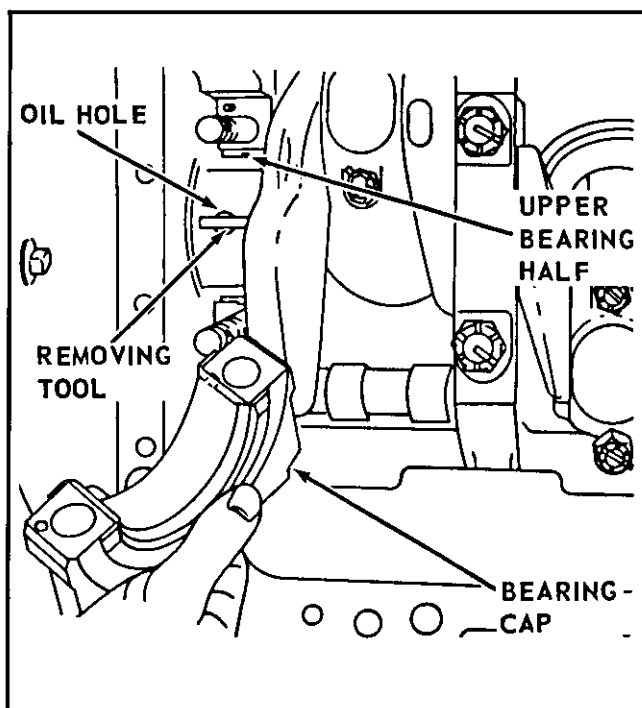

Figure 2-18. Main bearing upper half removal and installation
- f. Place a suitable tool in the crankshaft oil hole and rotate crankshaft in direction so that the inserted tool "rolls" the upper bearing half out of its seat, tab end first. Refer to figure 2-18.
k. Assemble key (14) in crankshaft keyway. Heat the crankshaft gear (13) to maximum temperature of 600°F and install on crankshaft aligning gear keyway with installed key. Shouldered side of gear (13) shall be against crankshaft shoulder.
n. Place a suitable tool in oil hole of crankshaft bearing journal that will "roll" upper bearing half into position in cylinder block journal. Refer to figure 2-18. Turn crankshaft by hand and "roll" upper bearing half into position. Roll upper half so that tab on bearing is properly located (roll into position with tab end last).